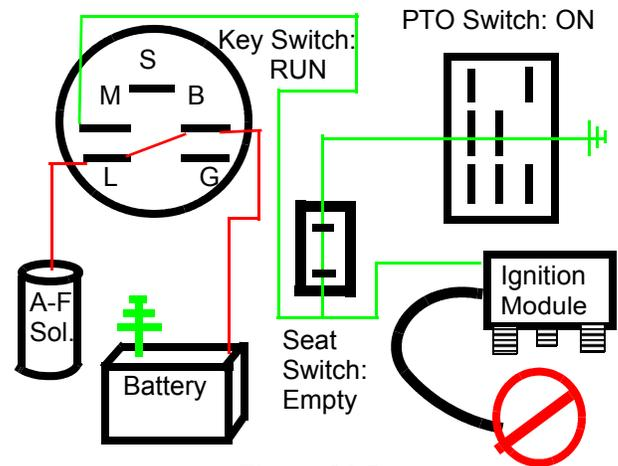

Figure 31.5
- 31.5. If the seat is empty (contacts closed) a ground path may be completed through the PTO switch. See Figure 31.5.